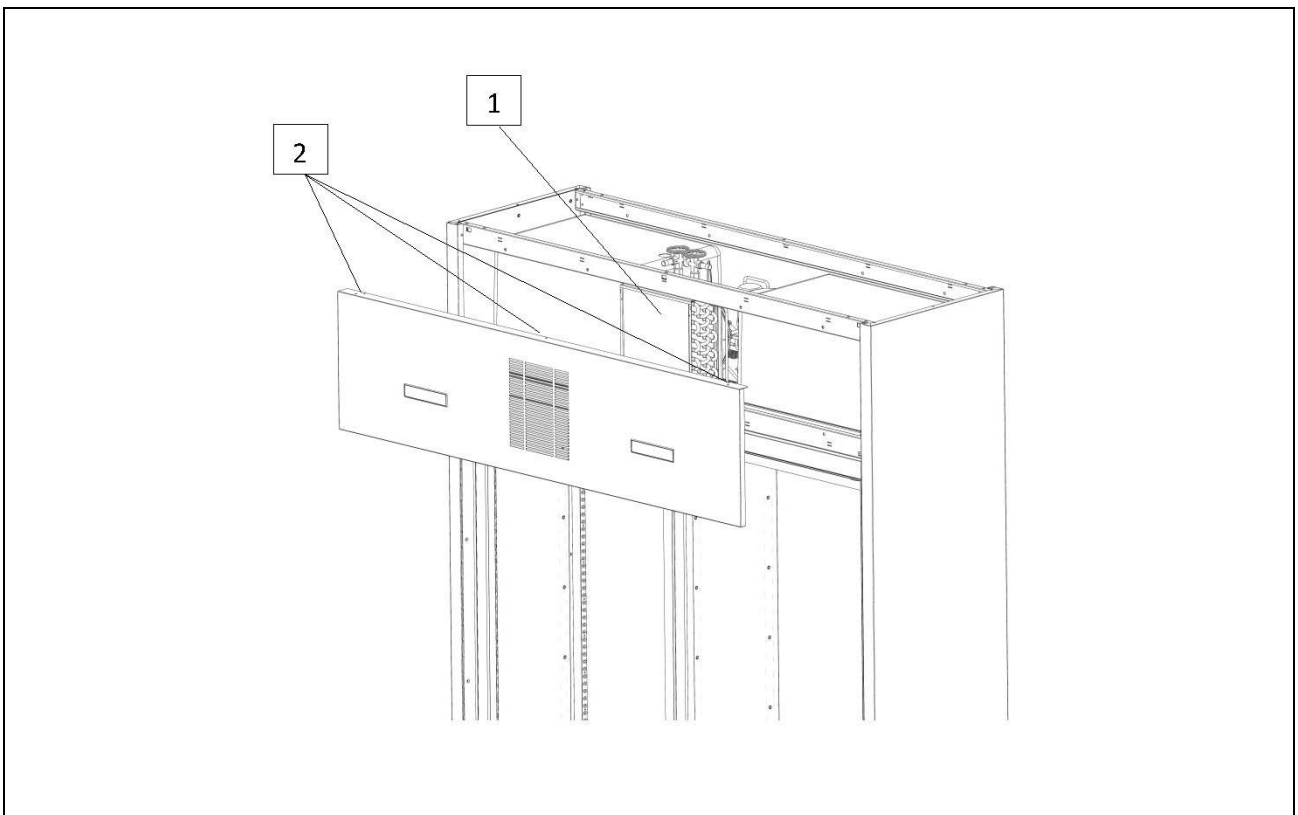

Fig. 10
For trouble-free efficient appliance operation, the air-cooled condenser (ref. 1 fig. 10) must be kept clean so that air circulates freely. Cleaning must be done once every 60 days at the most. Remove the control panel having first removed the top screws (ref. 2 fig. 10) and released the bottom pins. Use non-metallic brushes to clean, ensuring that all the dust and fluff is removed from the fins. We recommend using a vacuum cleaner so as to avoid dust being spread into the environment. If there are greasy deposits, remove them using a small brush soaked in alcohol. **DO NOT SCRAPE THE SURFACES WITH SHARP POINTED OR ABRASIVE OBJECTS.**